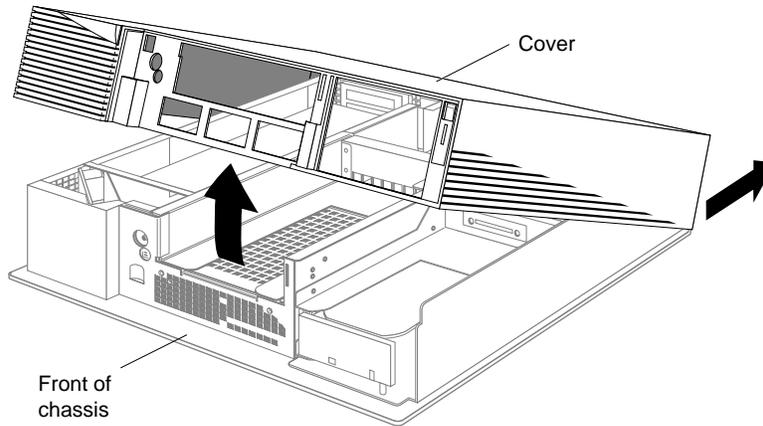

Figure 1-8 Removing the Cover
- Pull up on the cover and rotate it back and away from the chassis, as shown in Figure 1-8.